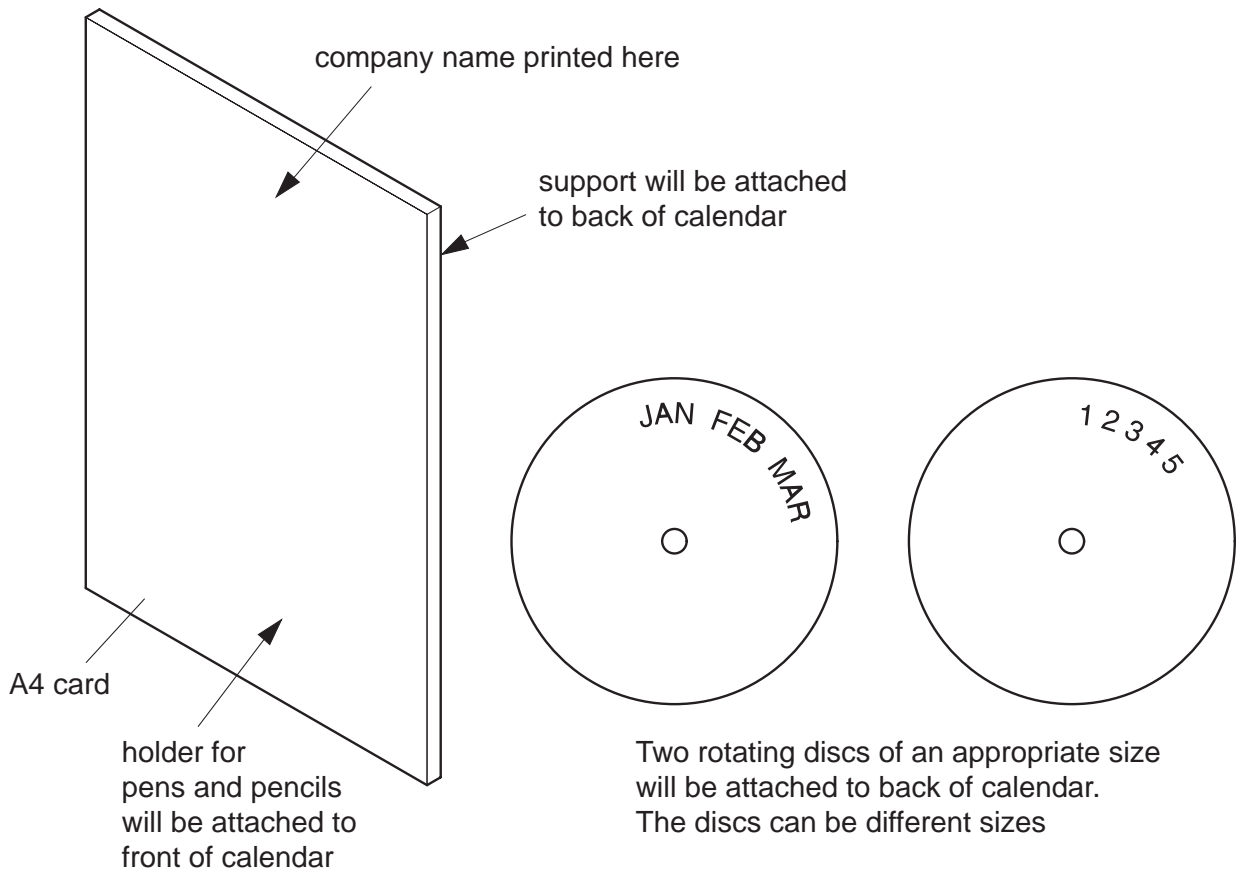

Fig. 8
- 8 Fig. 8 shows an incomplete design for a promotional desk top calendar which a company 'Group C Design' will post to its clients in a flat-pack form. Most of the calendar is made from A4 card.